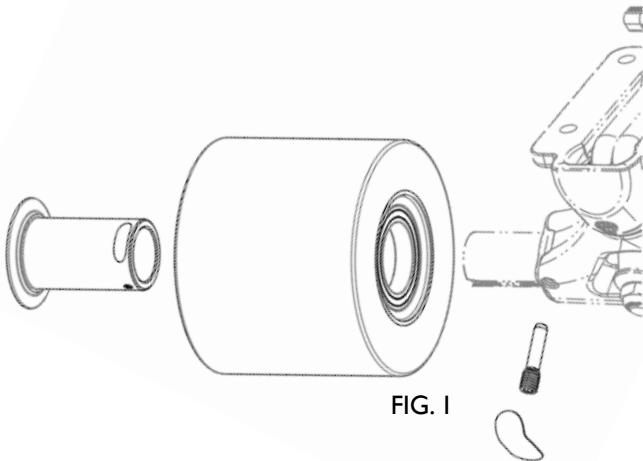
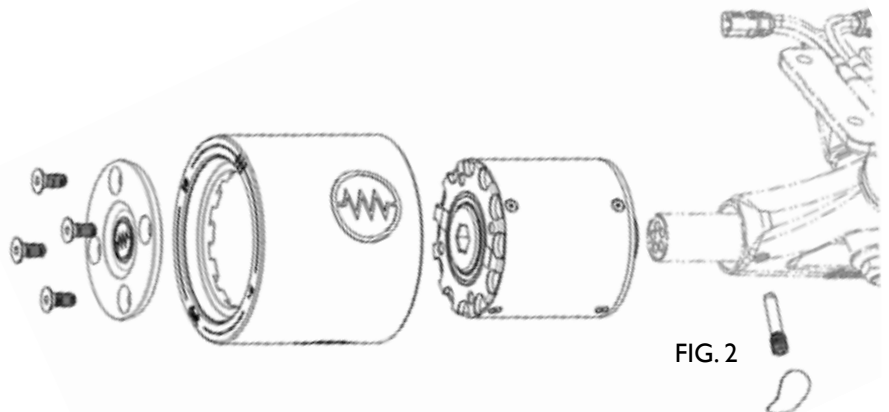

FIG. 1
FIG. 2
2. Remove the motor retaining pin arrestor sticker. (FIG. 1)
7. Press the hub motor in as you insert the motor retaining pin. Make sure to use a fresh motor retaining pin and apply Loctite Thread locker (263) to the pin thread prior to inserting the motor retaining pin into the hanger – Check the hanger thread for any debris and clean.
9. Clean Hanger where Arrestor Sticker seats to ensure good adhesion and apply the Arrestor Sticker over the motor retaining pin. See picture of tape application (FIG. 2).